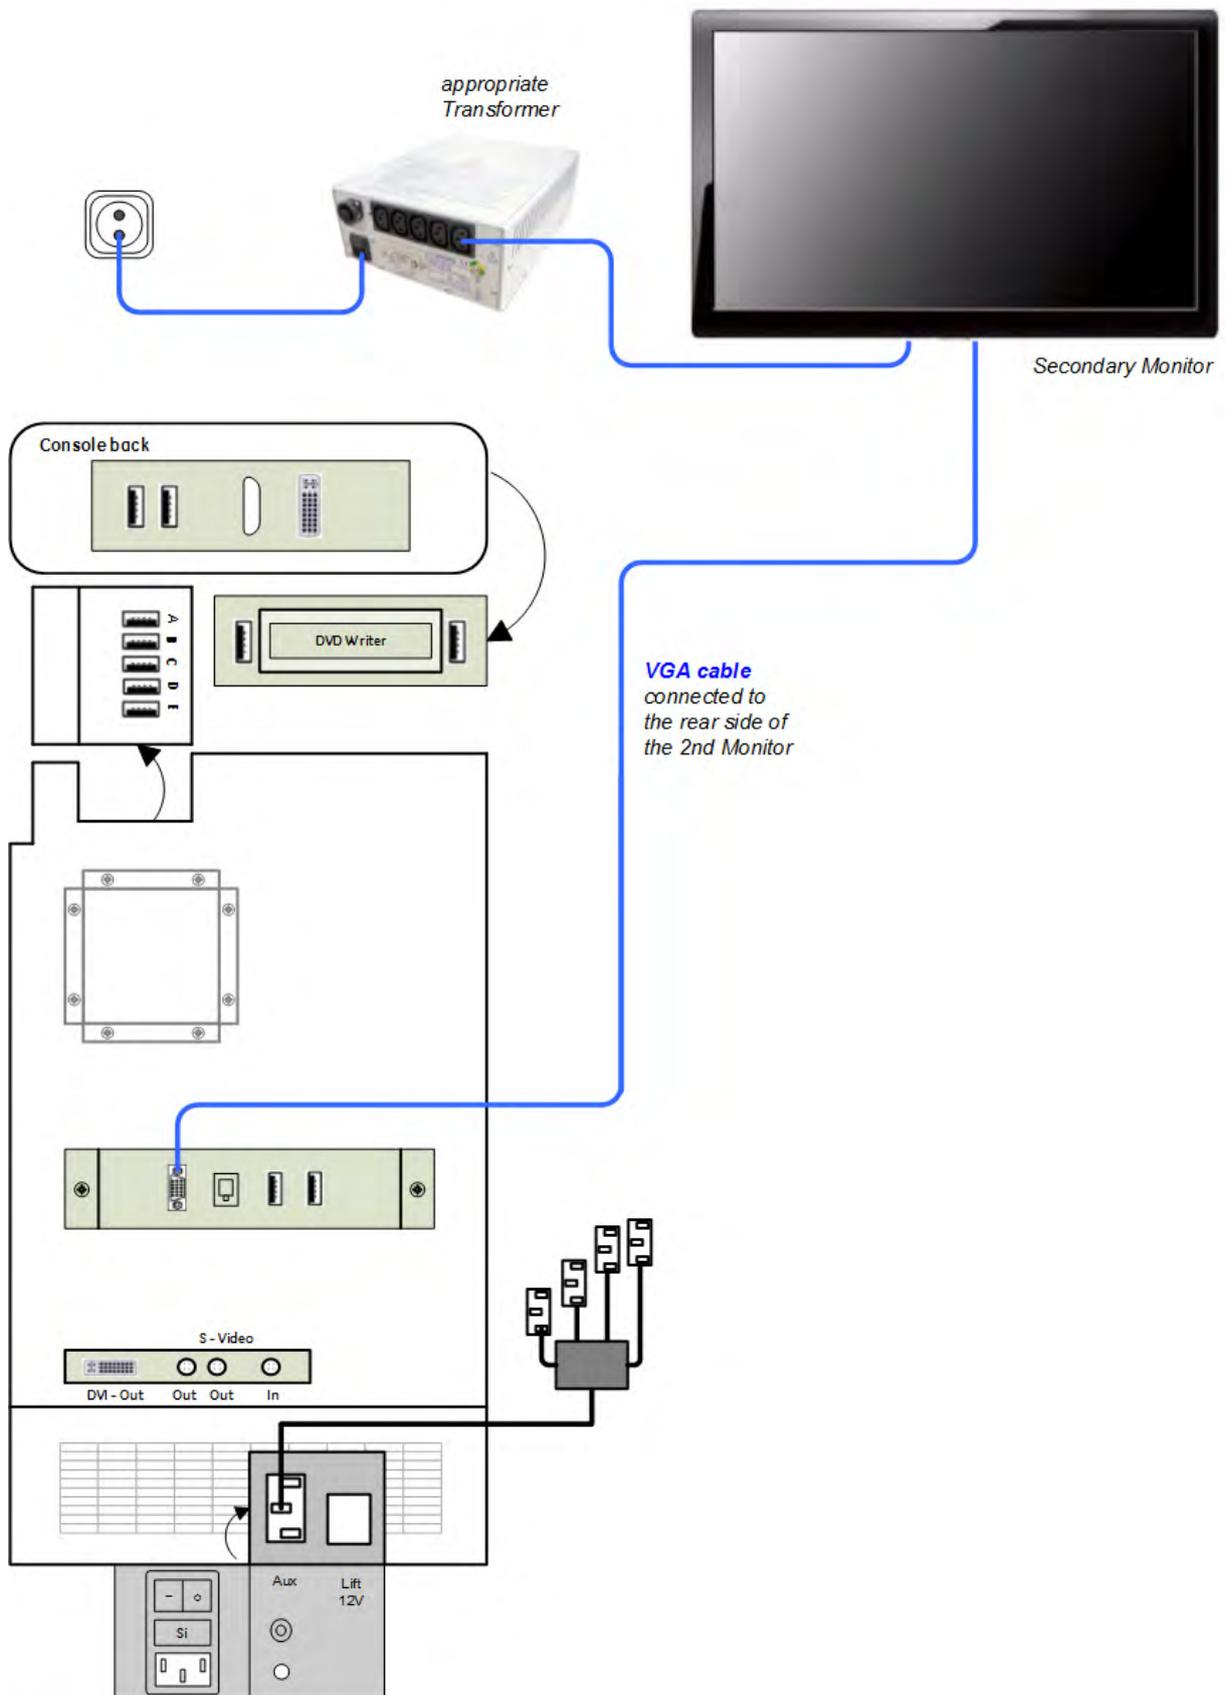

Figure 3-23 Connection Scheme - Secondary Monitor
2. Connect the Secondary Monitor according to connection scheme, see: Figure 3-23 on page 3-33 .